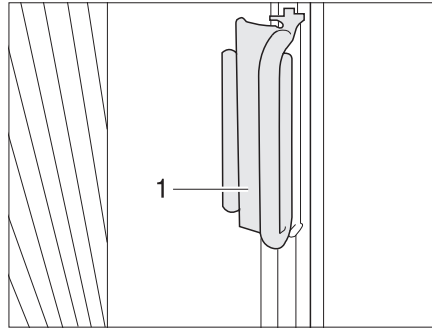

Fig. 86 Roman shade for driver's window and front passenger's window
- Grasp the handle (Fig. 86,1) of the Roman shades and draw carefully forwards until the magnetic catch keeps the Roman shades closed.
- Push the handle (Fig. 86,2) onto the upper part. The Roman shade is secured.